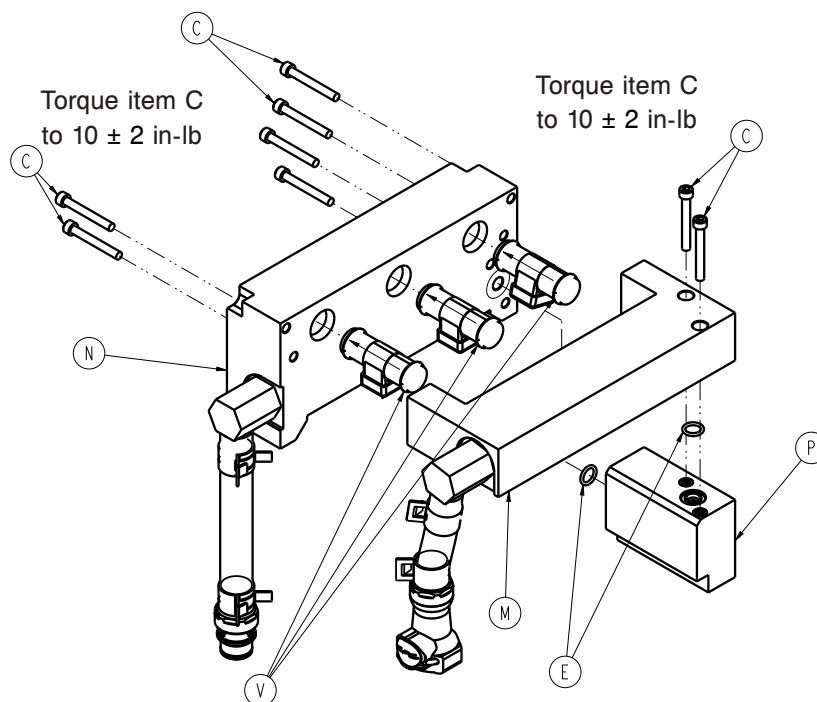

Figure 47 – Manifolds
22. Using a 5/32" Allen remove and save the six screws (C) that secure the Return Manifold to the Bypass and Supply Manifolds (Figure 47).